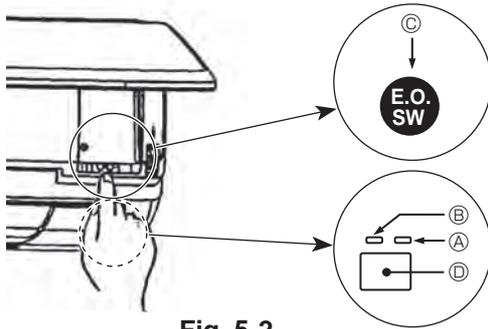

Fig. 5-2
- To stop operation, press the ⚙ button ① or the ⚙ button ② for more than 2 seconds.
[Fig. 5-2] ① DEFROST/STAND BY lamp (Orange)
② Operation lamp (Green)
③ Emergency operation switch (cooling/heating)
④ Receiver
- Check "COOL/HEAT" with the operation monitor display. (The orange lamp ① follows this monitor display for 5 seconds after pressing the emergency operation switch.)